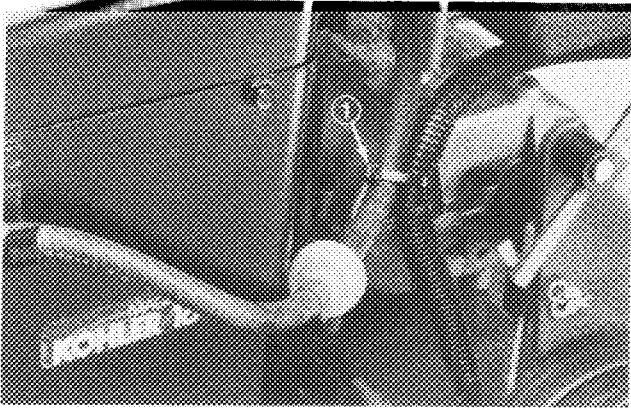

Figure 9
6. Secure wire harness and fuel line together with cable tie (Fig. 9).